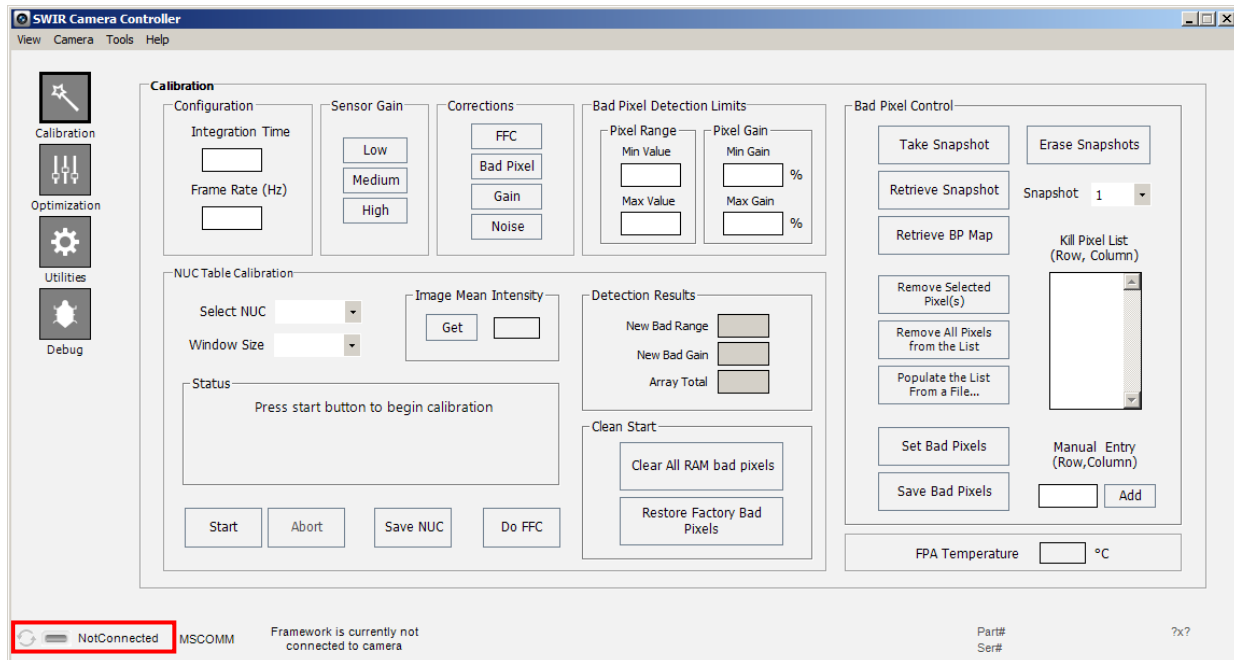

Figure 16. FLIR Camera Controller GUI Status Tab – Not Connected
2. When the GUI first opens, it will display “Not Connected” on the bottom left (see Figure 16). The first step is to connect to the camera.